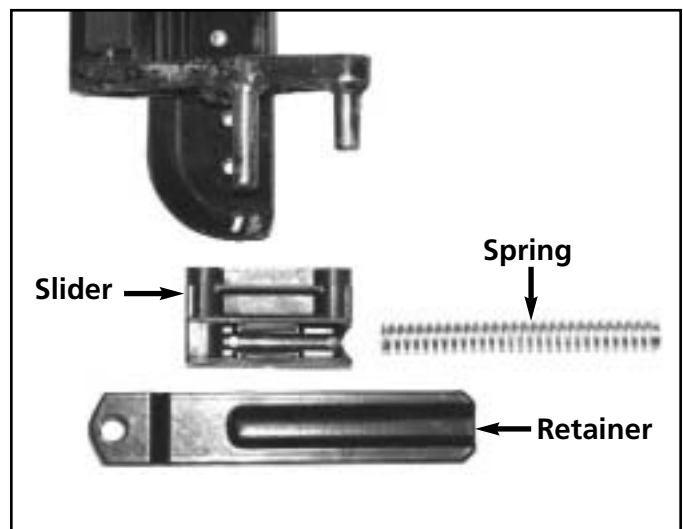

Figure S-17
4. Remove the slider and slider spring from each side of the front reinforcement. See figure S-17.